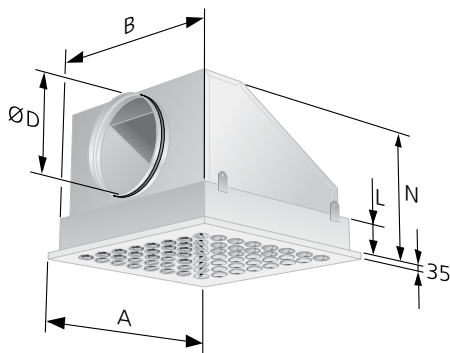

Figure 4. CDH/CLH, circular connection.
- The circular connection has a insertion design. See Figure 4.